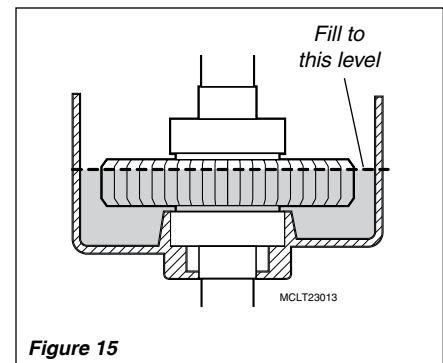

Figure 15
5. Place the gear case on the RH side and supported so the outer tube is parallel to the ground. Refill the gear case with 60 cc (2.0 fl.oz.) of Mobil SHC634 Synthetic Gear Oil to the bottom of the chamfer on the output gear. The correct oil depth is 5/8" (15.5 mm). See Figure 15. **DO NOT OVERFILL!**